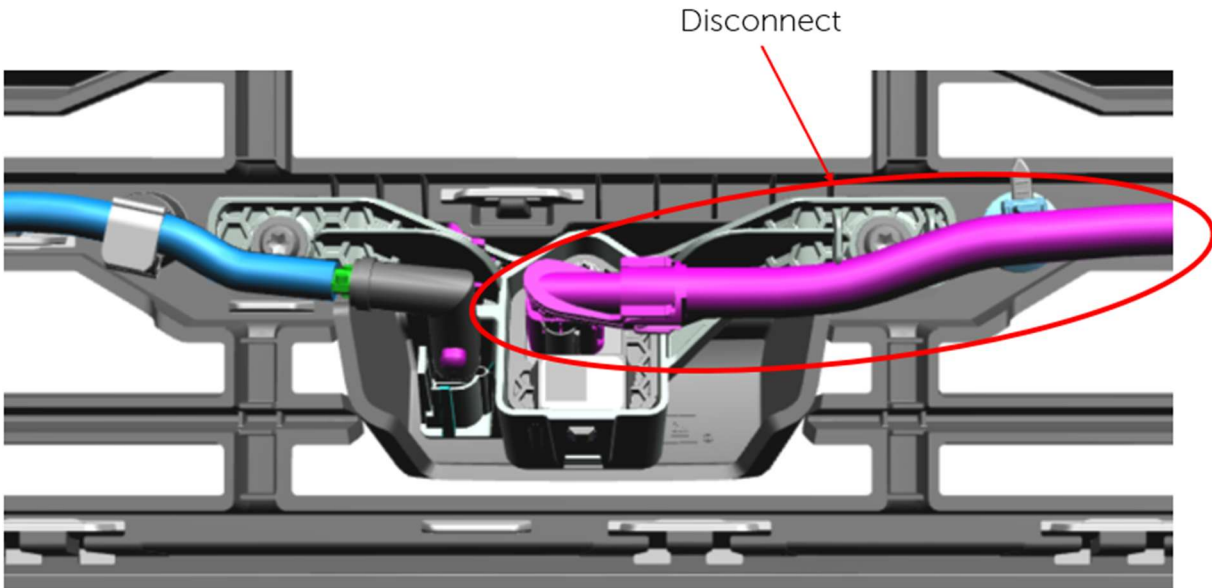

Figure 11
- A. Fully disconnect camera harness from grille fascia retention – this will re-route through AEV lower weldment. – Fig. 11